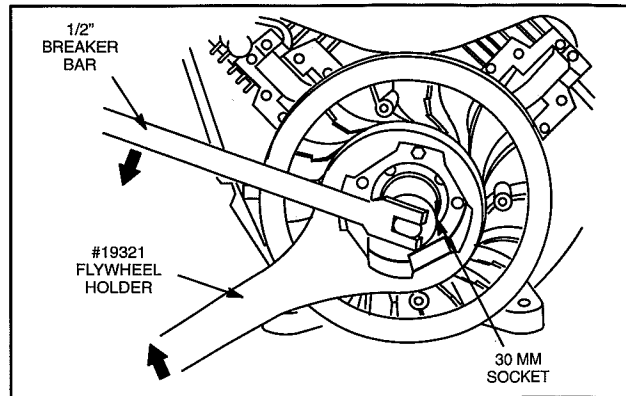

Fig. 5 – Remove Flywheel Nut Models 350000 & 380000
1. Place flywheel holder, Tool #19321 on fan retainer with lugs of flywheel holder engaging slots on the fan retainer, Fig. 5.